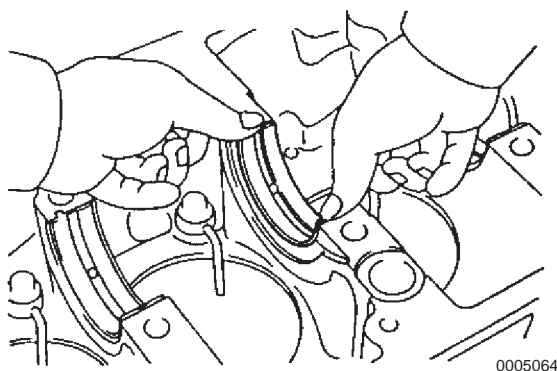

Figure 5-141
2. Align the main bearing claws with the grooves in the cylinder block and press in seven upper bearings (**Figure 5-141**).